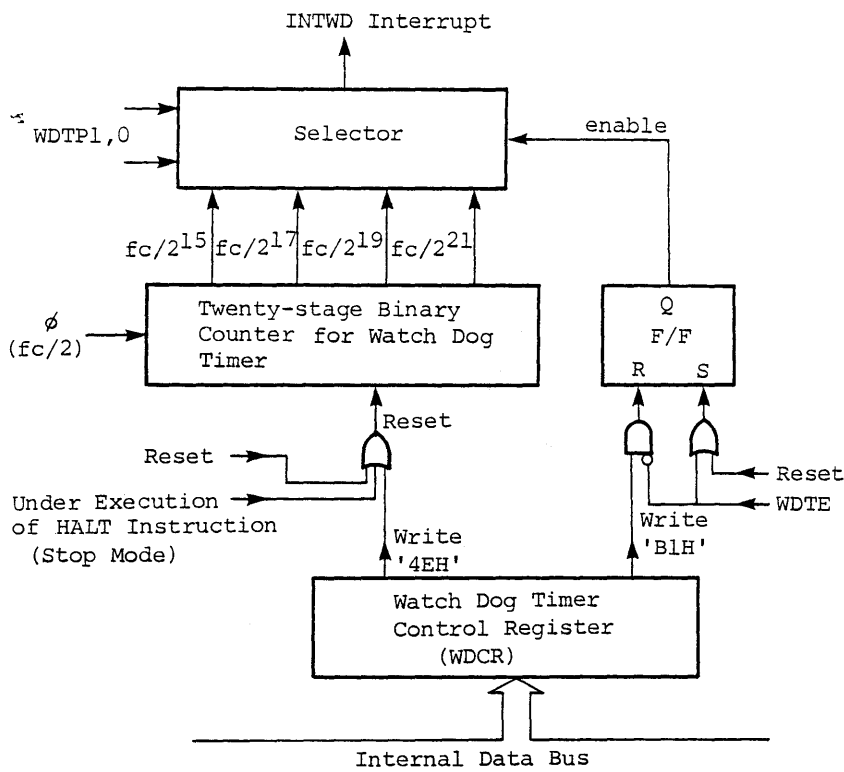

Fig. 3.10 (1) Block Diagram of Watchdog Timer
Fig. 3.10 (1) is a block diagram of the watchdog timer (WDT). The watchdog timer consists of a 20-stage binary counter (input clock: $\phi @ fc/2$), a flip-flop that disables/enables the selector, a selector that selects one of the four output clocks generated from the binary counter, and two control registers.